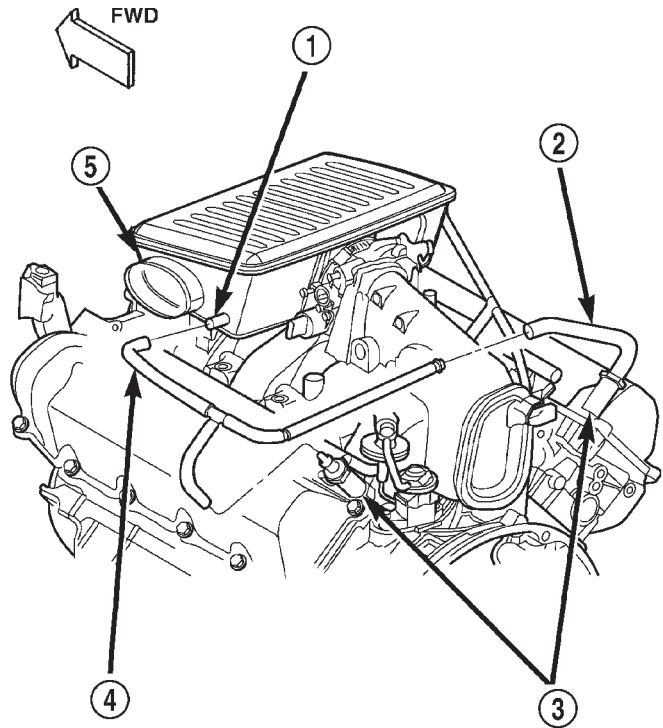

Fig. 10 PCV System Hoses/Tubes—4.7L Engine
- two interconnected breathers threaded into the rear of each cylinder head (Fig. 10).